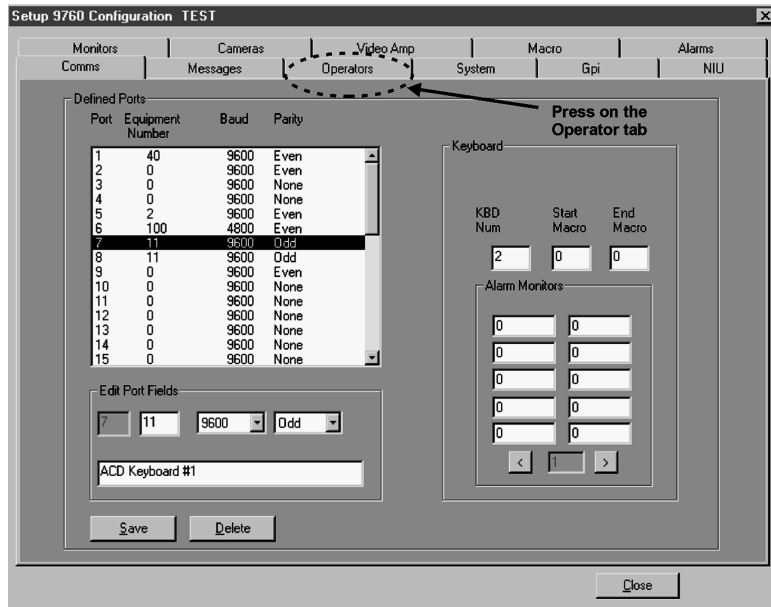

Figure 12. Navigating to the Operator File: Establishing the ACD as a User
1. Press the Operator tab to load the Operator file as illustrated in Figure 12.